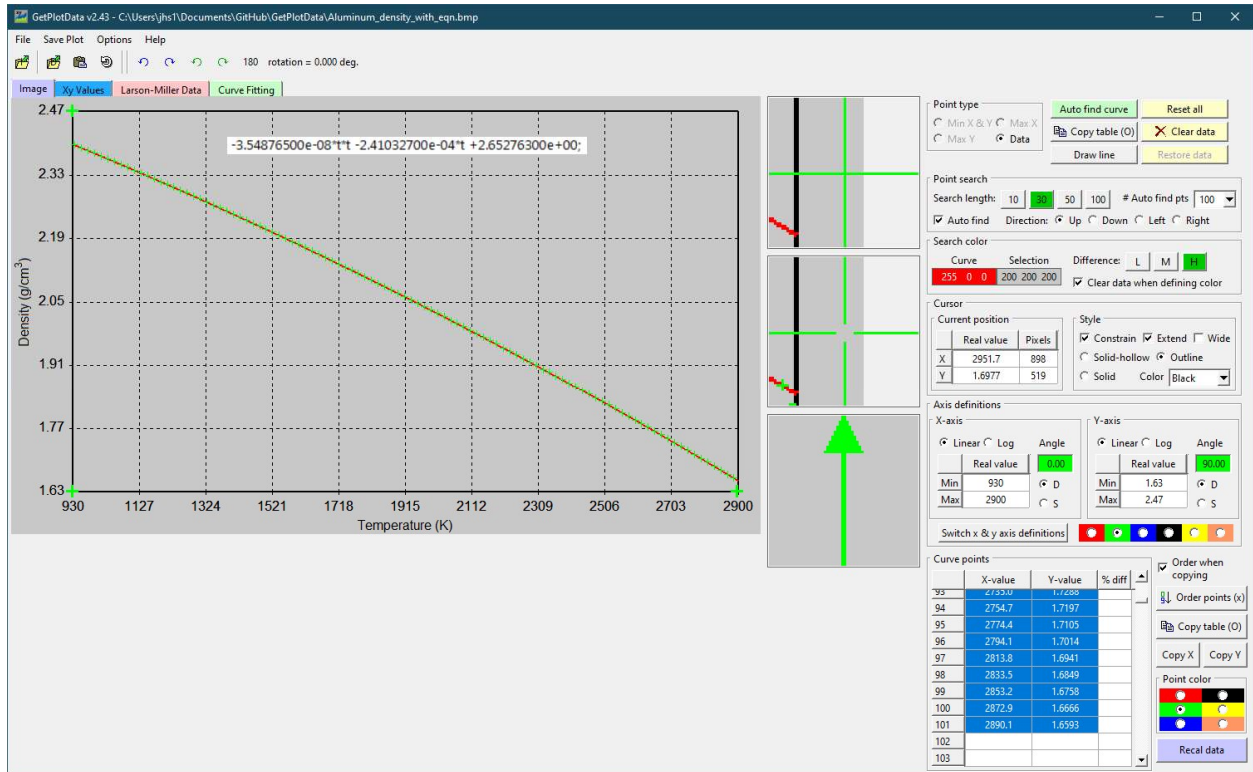

Figure 4. Auto find data points.
Step 4: Pick your data points off the plot. (Figure 4)
- a. Auto-find. This is fastest and easiest...when it works. You click on a point next to the curve at the lowest value in x on your plot and then on a point next to the curve at the highest value in x. Then click the “Auto-find” button. The program will then scan and try to find the curve then move slightly and search again. You pick your starting and ending points based on your scan direction. For example, if you are scanning up, pick points just below the curve. This is the method shown in figure 4.